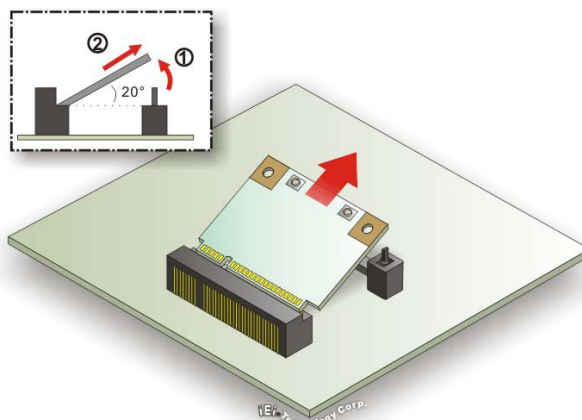

Figure 6-6: Removing the WLAN card
Step 7: Grasp the WLAN card by the edges and carefully pull it out of the socket (**Figure 6-6**).